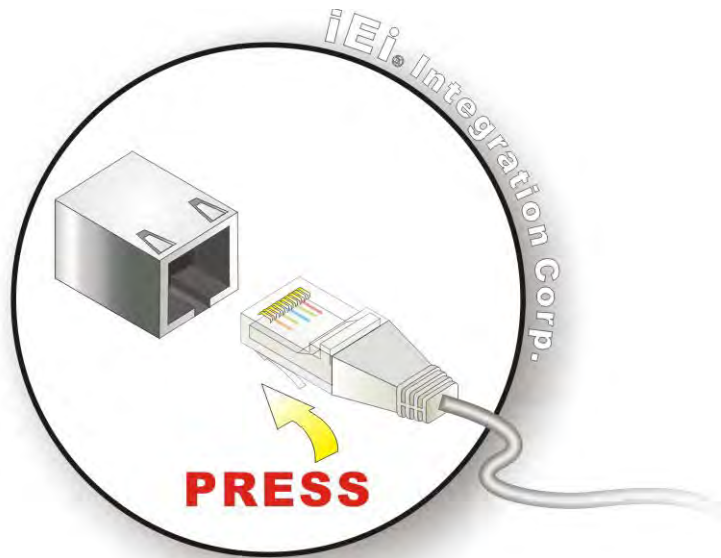

Figure 4-6: LAN Connection
Step 2: Align the connectors. Align the RJ-45 connector on the LAN cable with one of the RJ-45 connectors on the KINO-KBN-i2. See **Figure 4-6**.